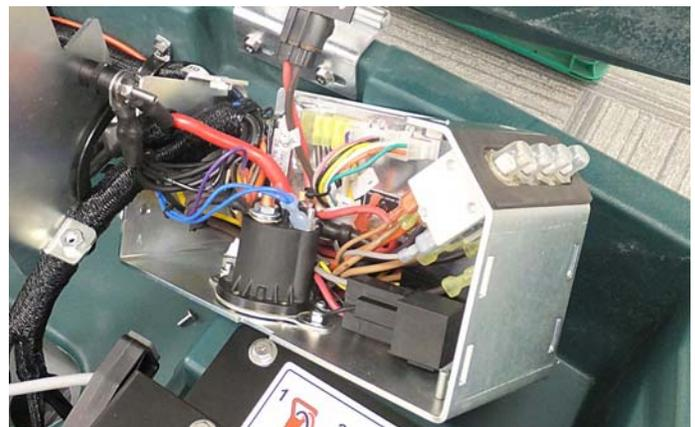

Fig. 5
3. Lift out the circuit breaker box and remove the side panel as shown (Figure 5). Do not disconnect any of the wiring.